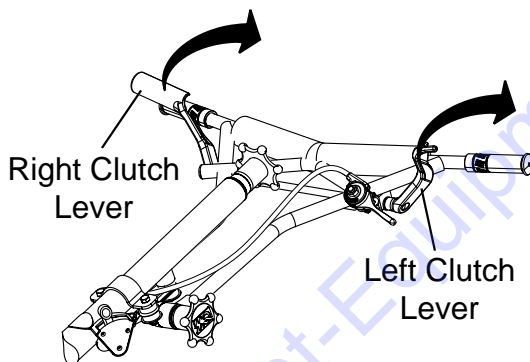

Figure 33. Clutch Levers (Blade Activation)
2. Squeeze the pull the clutch lever (Figure 33) to begin 4-blade rotation. Verify that the blades are rotating.